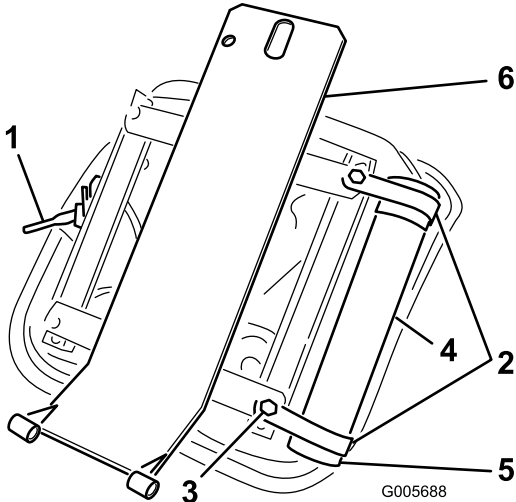

Figure 12
- 1. Mount seat suspension assembly to 4 capscrews on seat bottom and secure with 4 lock washers, flat washers, and nuts (Figure 12).
- 2. Loosely secure 2 R-clamps to right side of seat bottom with 2 capscrews and flat washers supplied in kit (Figure 12). Install manual tube into R-clamps and tighten capscrews (Figure 12).
- 3. Mount seat support over four threaded studs at the bottom of seat suspension assembly and secure in place with flange nuts (Figure 12).